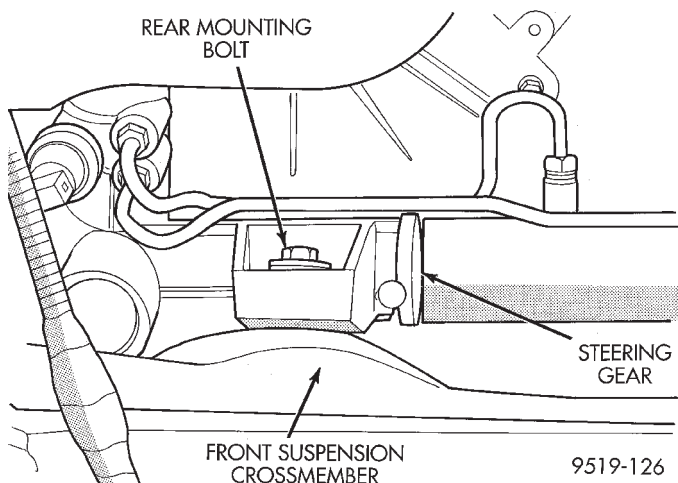
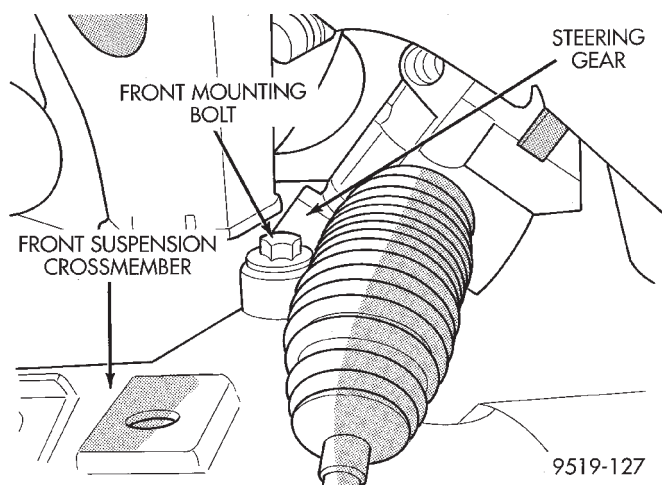
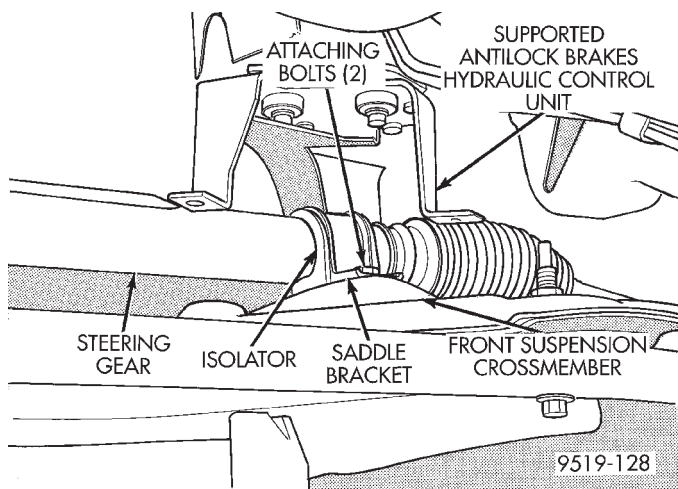

Fig. 19 Steering Gear Rear Mounting Isolator Bolt
Fig. 20 Steering Gear Front Mounting Bolt
Fig. 21 Steering Gear Saddle Bracket Mounting Bolts
(22) Remove the 2 bolts, at the isolators (Fig. 19) and (Fig. 20) attaching the steering gear assembly to front suspension crossmember. Then remove the 2 bolts attaching the steering gear saddle bracket (Fig.
(1) Install steering gear assembly on front suspension crossmember. Install the 2 long steering gear assembly to front crossmember mounting bolts (Fig. 19) and (Fig. 20) into the mounting isolators. Then install the 2 short bolts (Fig. 21) into the saddle bracket. Tighten the 4 steering gear mounting bolts to a torque of 68 N·m (50 ft. lbs.).